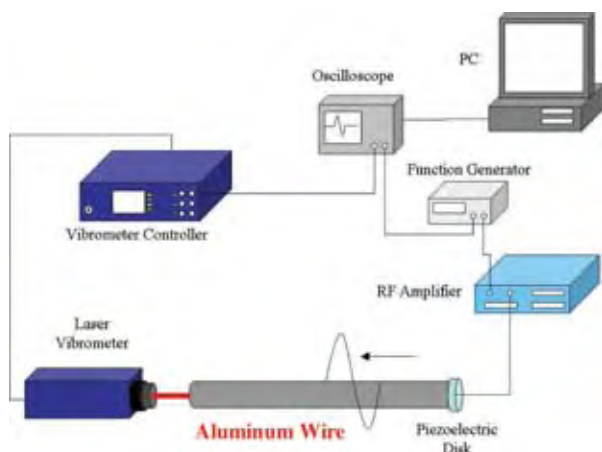
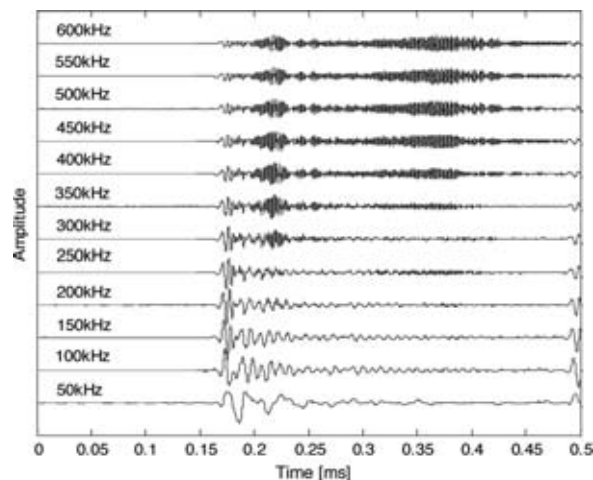

Fig. 6: Experimental setup for characterizing longitudinal waves in a single wire.
Fig. 7: LDV-measured axial particle velocity as a function of frequency.
The experimental setup for characterizing longitudinal mode propagation in a single wire is depicted in Fig. 6. A single sine burst from the function generator is amplified with the radio frequency (RF) amplifier, and this signal is used to drive a piezoelectric disc transducer. The transducer, in turn, generates an elastic wave in the aluminum wire (4.45 mm diameter, 820 mm length). The elastic wave propagates through the aluminum wire and is detected by a laser Doppler vibrometer (LDV). The LDV is a powerful measurement tool that allows non-contact, high fidelity, point-like measurements over a wide frequency range. As shown, the LDV is used to measure the axial particle velocity at the left end of the wire. The output from the LDV is captured by an oscilloscope and is then transferred to a PC for processing. Figure 7 depicts the measured axial particle velocity at the wire end for different frequencies. The existence of three discrete signal bursts (as seen in the 500 kHz trace) is evidence of the dispersive nature of the fundamental longitudinal mode.